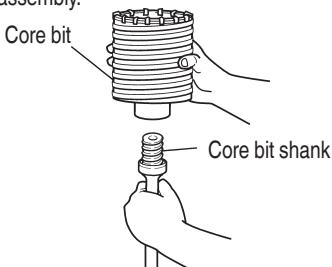

Fig. 17
- Mount the core bit to the core bit shank. (Fig. 17)